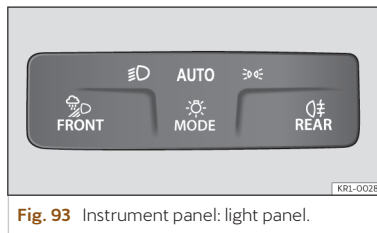

Fig. 93 Instrument panel: light panel.
- Switch on the ignition and select mode **AUTO** on the headlight control >>> **Fig. 93**.